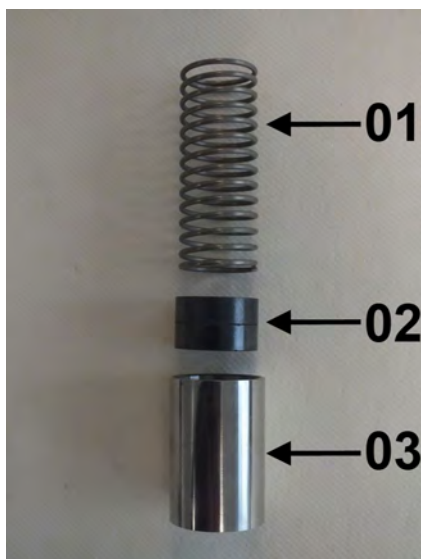

Fig. 54: Inner parts
8. ➤ Insert spring (Fig. 54/01) with magnets (Fig. 54/02) into the float (Fig. 54/03) ensuring proper magnetic pole orientation (north pole toward device outlet)